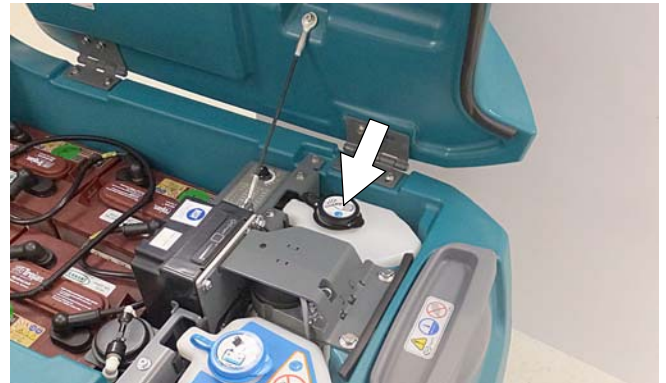

FIG. 26
- Lift the recovery tank to access the severe environment detergent tank (Figure 26). Drain recovery tank before lifting tank.